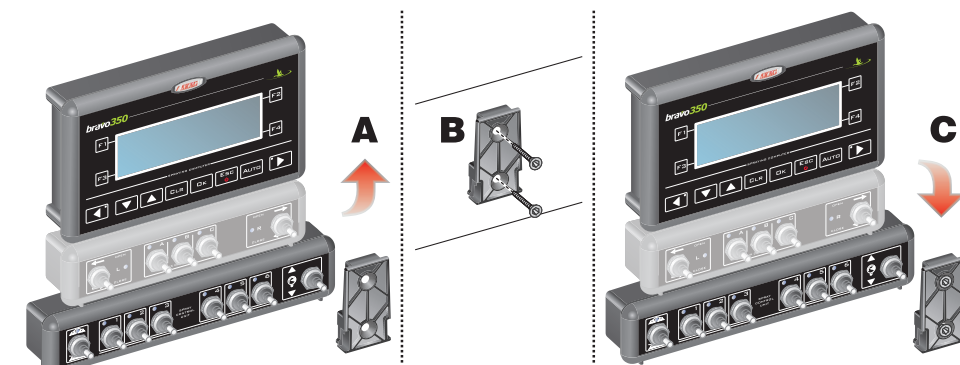

Fig. 4
The monitor must be mounted after having fixed the bracket at the desired location (the previous paragraph shows the bracket drilling template). The bracket must be slid out of the monitor seat (A, Fig. 4) and fixed using the supplied screws (B). Make sure the bracket is securely mounted, fit the monitor on it, and push it until it locks in place (C).